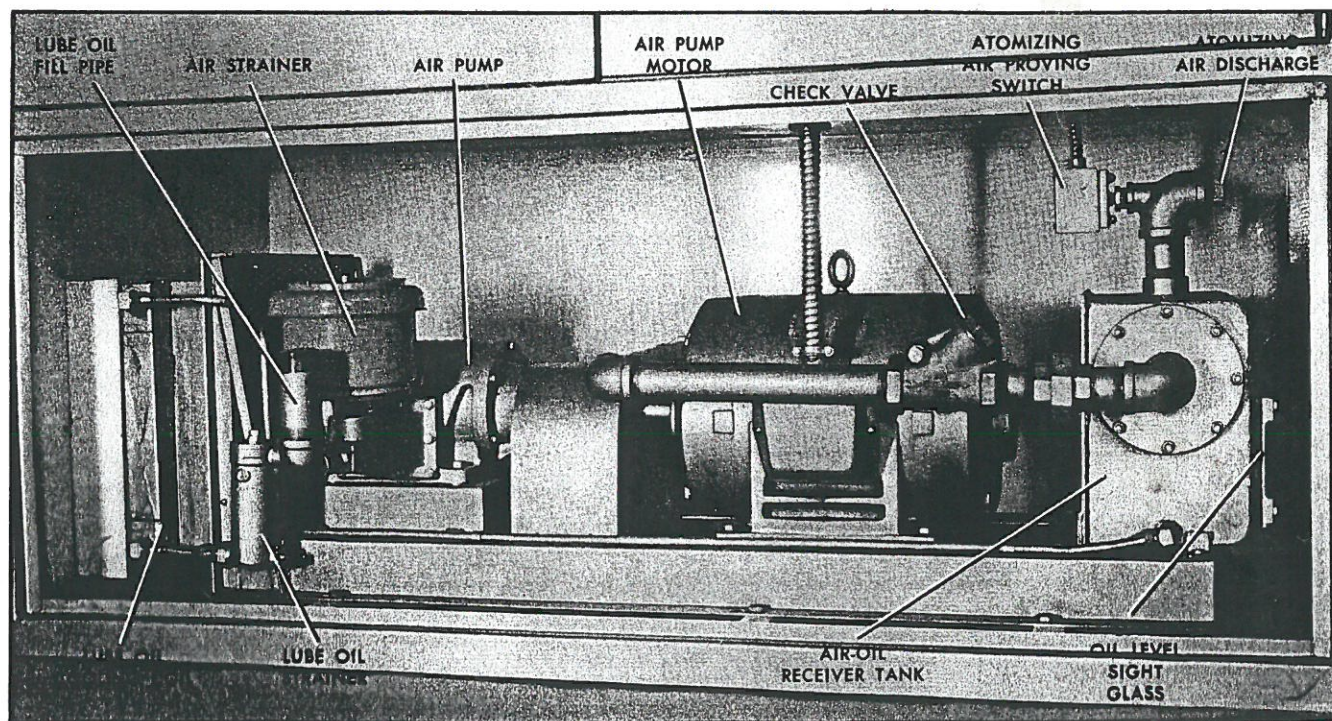

FIGURE 2. TYPICAL AIR PUMP MODULE
1. Disconnect union in pump discharge line. See Figure 2.